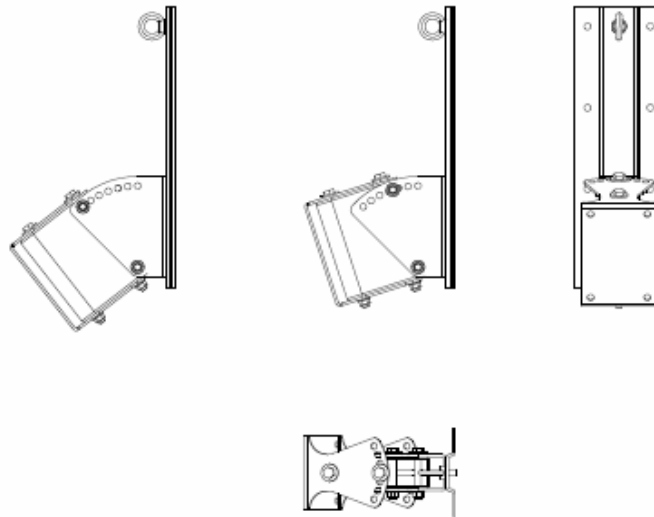
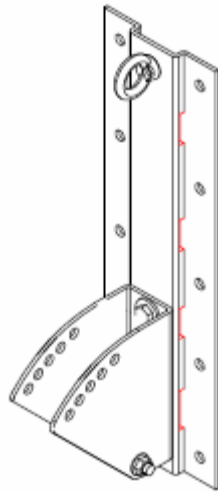
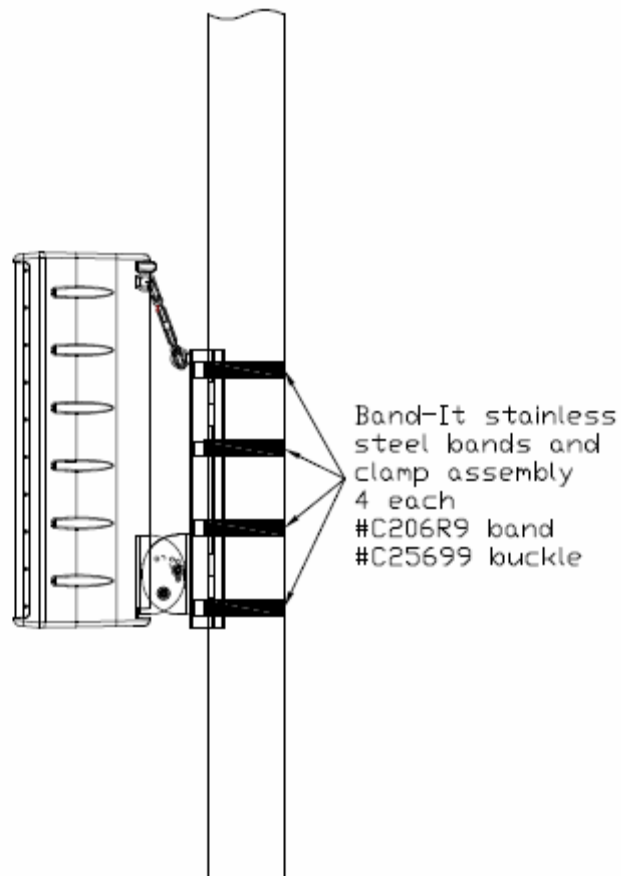

Figure 1
Figure 1a
Figure 6
The PT-70 and PT-35 consist of three parts: the wall bracket, the loudspeaker bracket, and the Safety Link. The PT-70 wall bracket and loudspeaker bracket are shown in Figure 1. Figure 1a shows the wall bracket portion of both the PT-70 and the PT-35. The PT-70 bracket allows the loudspeaker to be oriented from a 0 degree down tilt to a maximum down tilt of 30 degrees and the PT-35 allows a down tilt of 25 degrees.
1. Mount the wall bracket section (see figure 1a) of the bracket to the pole at the desired height on the pole. The bracket is mounted to the pole using BAND-IT stainless steel bands. DO NOT SUBSTITUTE bands of other material or other widths! There are four locations on the pole bracket for bands. ALL 4 LOCATIONS MUST BE USED on the PT-70. There are 3 locations for the PT-35, ALL THREE MUST BE USED. Figure 6 illustrates the locations for the stainless steel band clamps.(PT-70 is shown)